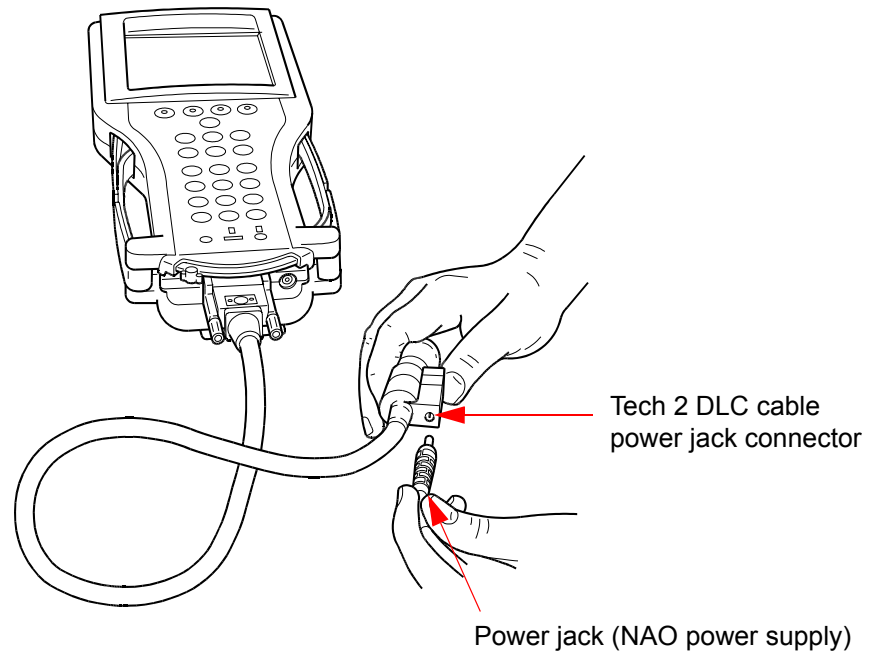
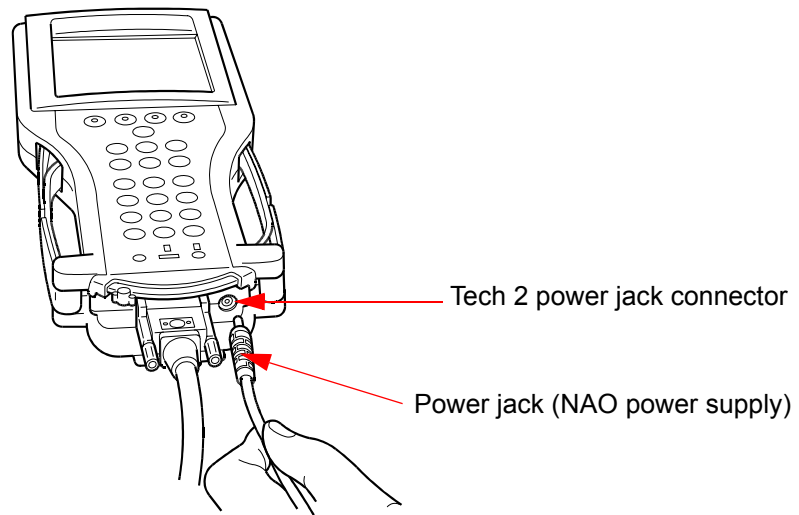

FIGURE 3-5. Connection of Power Jack to Tech 2 DLC Cable
FIGURE 3-6. Connection of Power Jack to the Bottom of Tech 2
4. Locate the NAO (P/N 02002972) power supply and appropriate power cord in the storage case. Insert the power jack into the Tech 2 DLC cable (Figure 3-5) or into the bottom of the Tech 2 next to DLC cable connector (Figure 3-6).